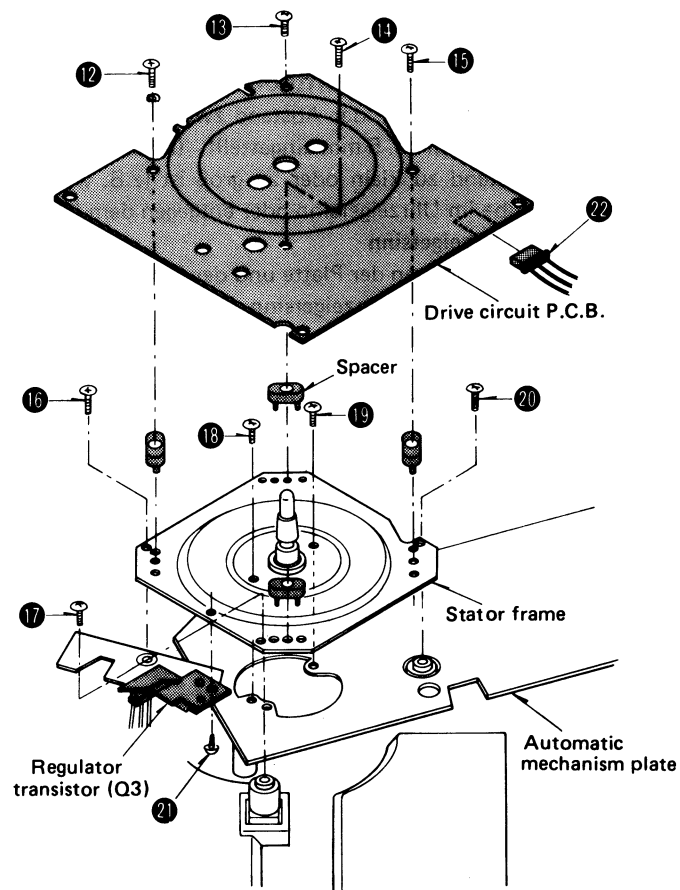

Fig. 5
2. Remove the drive circuit P.C.B. setscrews 12 ~ 15. (See Fig. 5)
3. Remove the stator frame setscrews 16 ~ 20. Remove the regulator transistor (Q3) setscrew 21 and connector 22. Then, the drive circuit P.C.B. can be separated from the stator frame. (See Fig. 5)
4. When removing the drive circuit P.C.B. and stator frame together, remove the connector 22 and setscrews 16 ~ 20. (See Fig. 5)